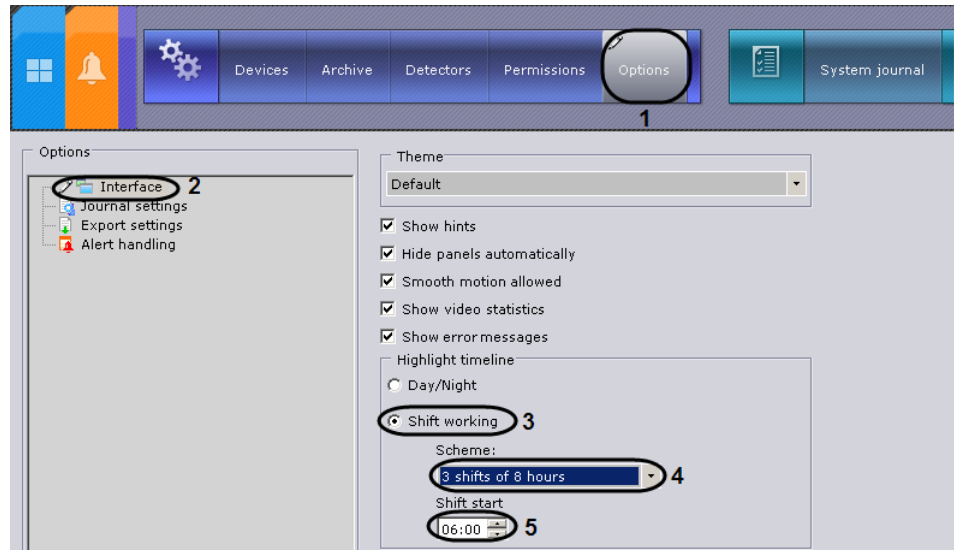

Fig. 6.8—12 Configuring the timeline style. The Shift working style
2. Select the **Shift working** option button in the **Highlight timeline** configuration group (see Fig. 6.8—12, 3).